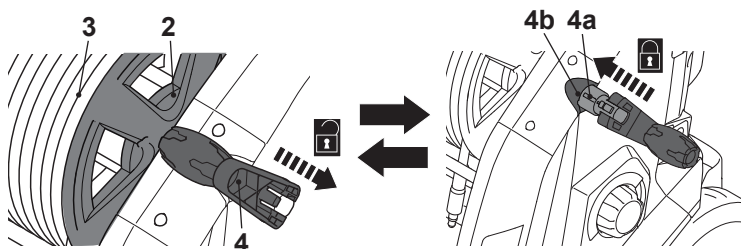

Fig. 16
1. Pull out the winding handle k (4) from the housing and unfold it to unlock the hose reel (2) and itself (Fig. 16).
2. Pull out the pressure hose (3) from the hose reel (2) for operation.
3. Turn the winding handle k (4) clockwise to wind up the pressure hose (3) for storage. Release the pressure in the hose before winding up the hose: turn product off using the control dial and press gun trigger until the pressure is released.